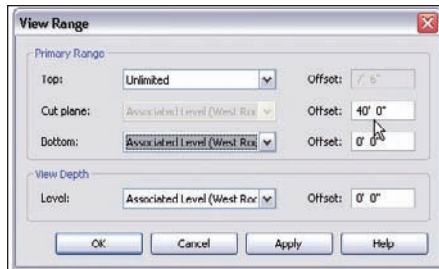

FIGURE 7.43 Setting the view range
4. Set the Cut Plane Offset to 40'-0" (see Figure 7.43).